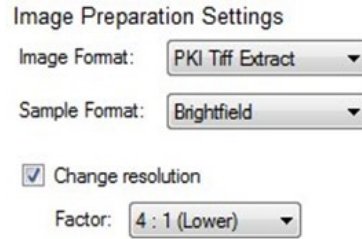

Figure 4.19. Prepare Images downsample.
2. It is often beneficial to downsample your imagery. This makes the classification much faster and for 10x scans it can improve the results as well. Within the Prepare Images step, start with a downsampling of 4:1. If the classifier is not performing well, reduce the downsampling to 2:1. (See Figure 4.19.)